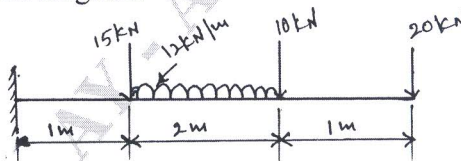

Fig.Q.5(b)
- b. A cantilever beam subjected to udl and point loads as shown in Fig.Q.5(b). Draw shear force diagram and bending moment diagram. (14 Marks)